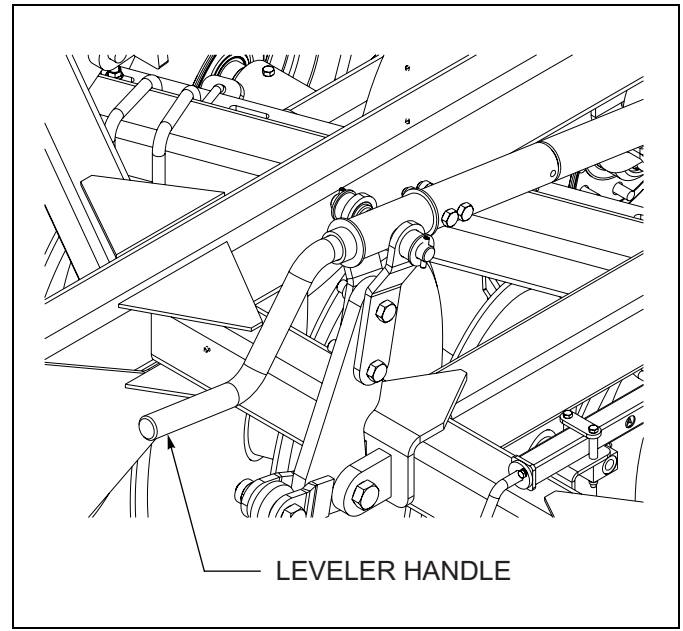

Figure 4-7: Manual Leveler Adjustment
3. On machines with manual leveler adjustment, turn the leveler handle in or out to adjust the front-to-rear level (**See Figure 4-7.**) By turning the leveler handle in (clockwise) will lower the rear gangs in deeper. By turning the leveler screw out (counter-clockwise) will raise the rear gangs.